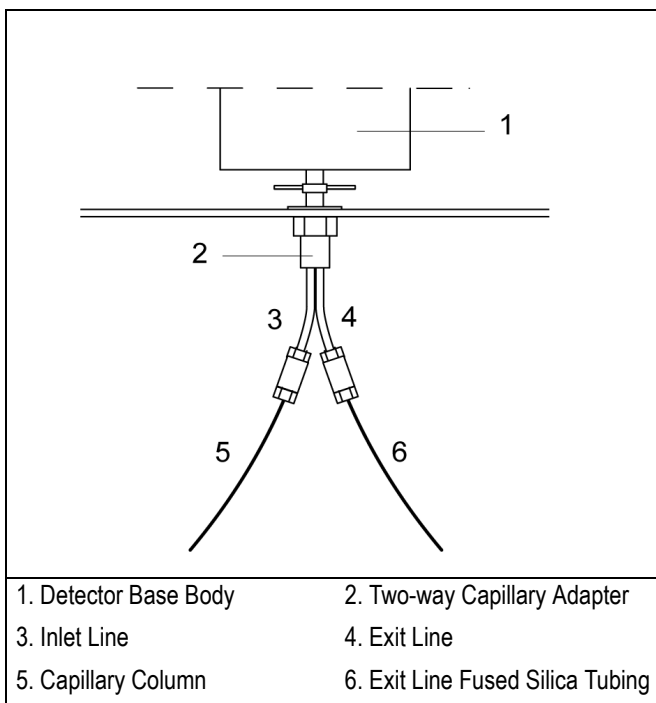

Figure 20-7. Capillary Column and Exit Line Connections
12. Connect capillary column and exit line to the PID as described in *Chapter 15* page 245 of the *TRACE GC Operating Manual*. The result of the operation is shown in Figure 20-7.